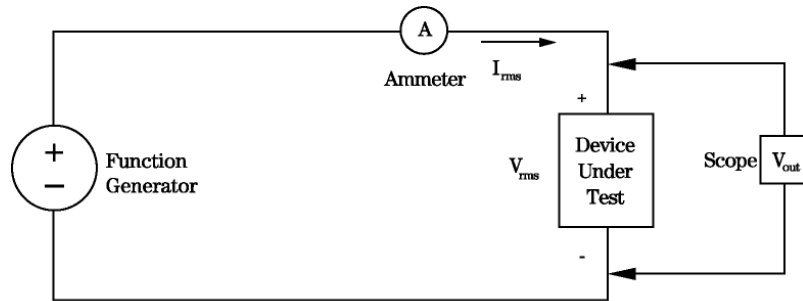

Figure 1
- b. Build the circuit of Fig. 1. Put the 1-k Ω resistor in the circuit location indicated by the box labeled Device Under Test.